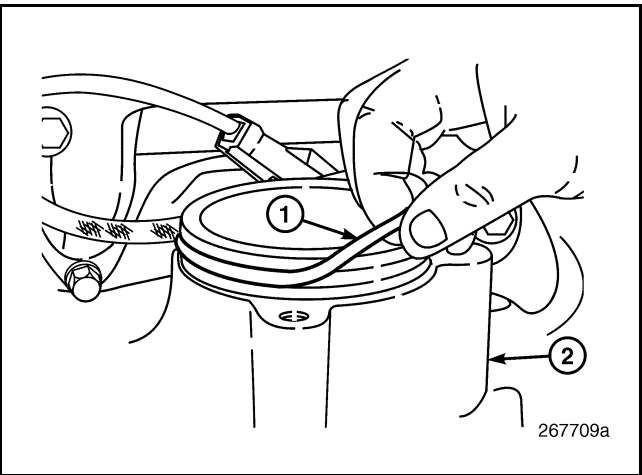

Figure 510 — O-Ring Installation
2. Clean and inspect the mounting collar on the inlet manifold. Then, install a **new** O-ring on the collar (Figure 510).